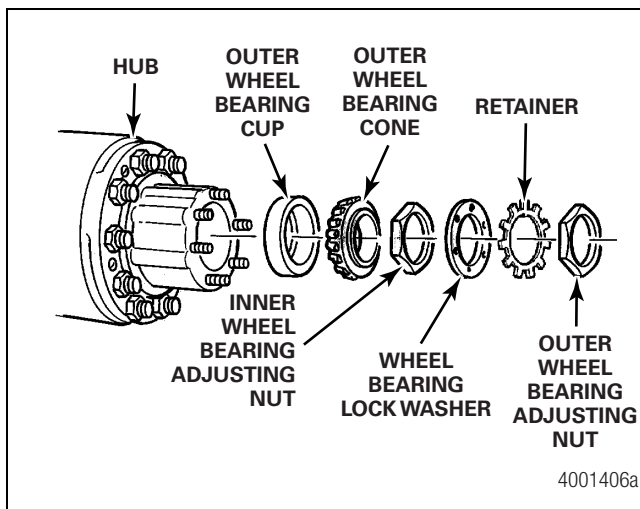

Figure 7.5
- 1. If not already installed, install the inner wheel bearing adjusting nut onto the spindle and against the outer bearing so that the pin in the inner bearing adjusting nut is pointing away from the bearing. Figure 7.5.